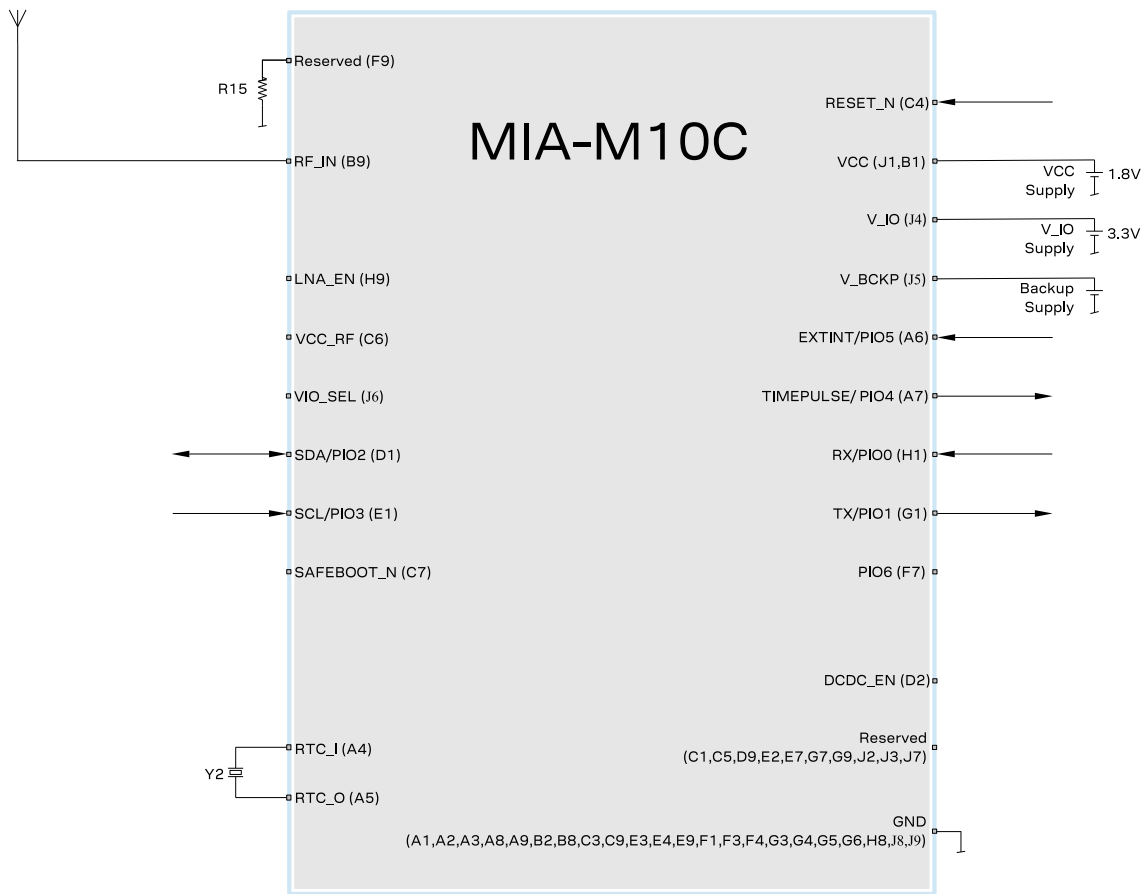
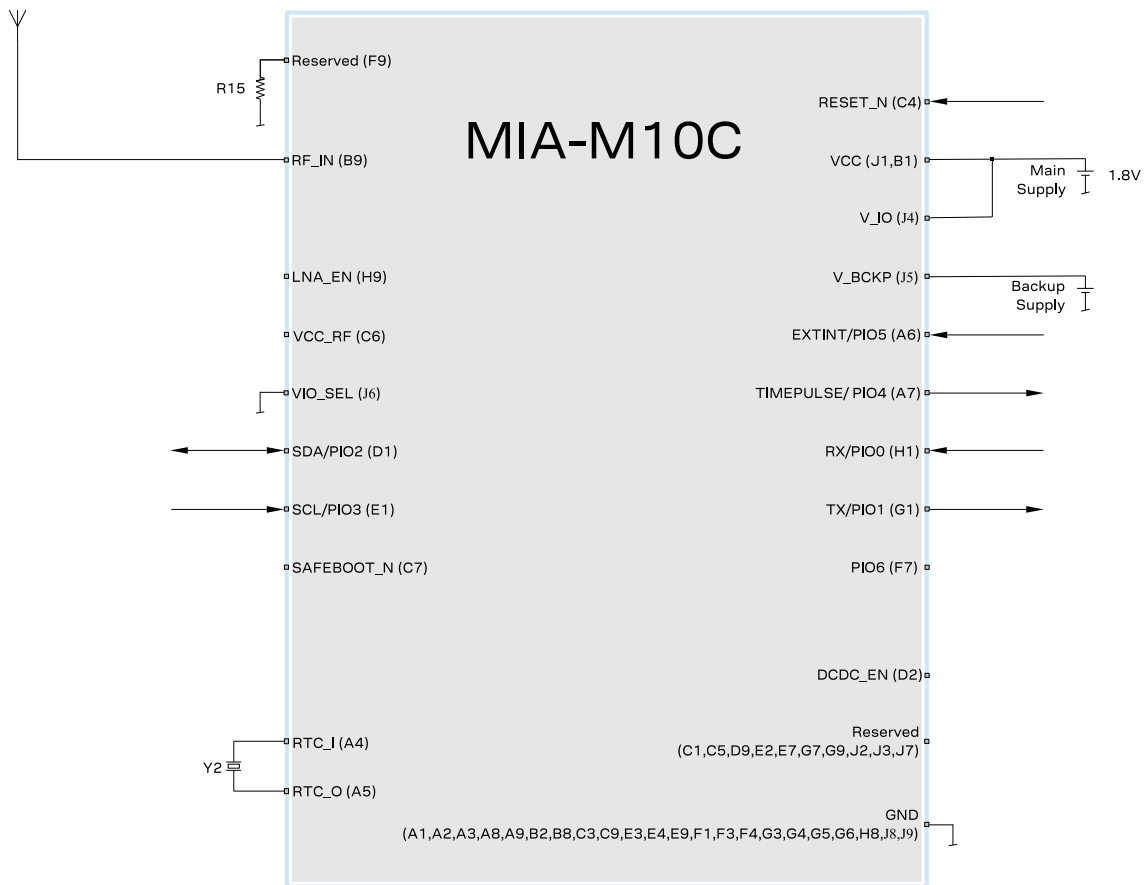

Figure 36: Typical 3.3 V design
Figure 37: Typical 1.8 V design
- The main supply(VCC) is 1.8 V. VCC and V_{IO} are connected together to a single supply in the case when 1.8 V V_{IO} supply is used. In designs with V_{IO} supply as 3.3 V, the VIO_SEL pin must be left open, as shown in Figure 36. In designs with V_{IO} supply as 1.8 V, the VIO_SEL pin must be connected to GND, as shown in Figure 37.